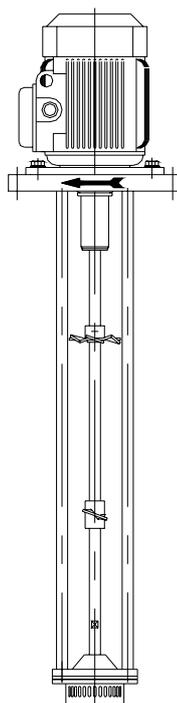

Figure 5.1
3. Make sure that the impeller is turning in the right direction (clockwise as viewed from the drive side). See Figure 5.1.